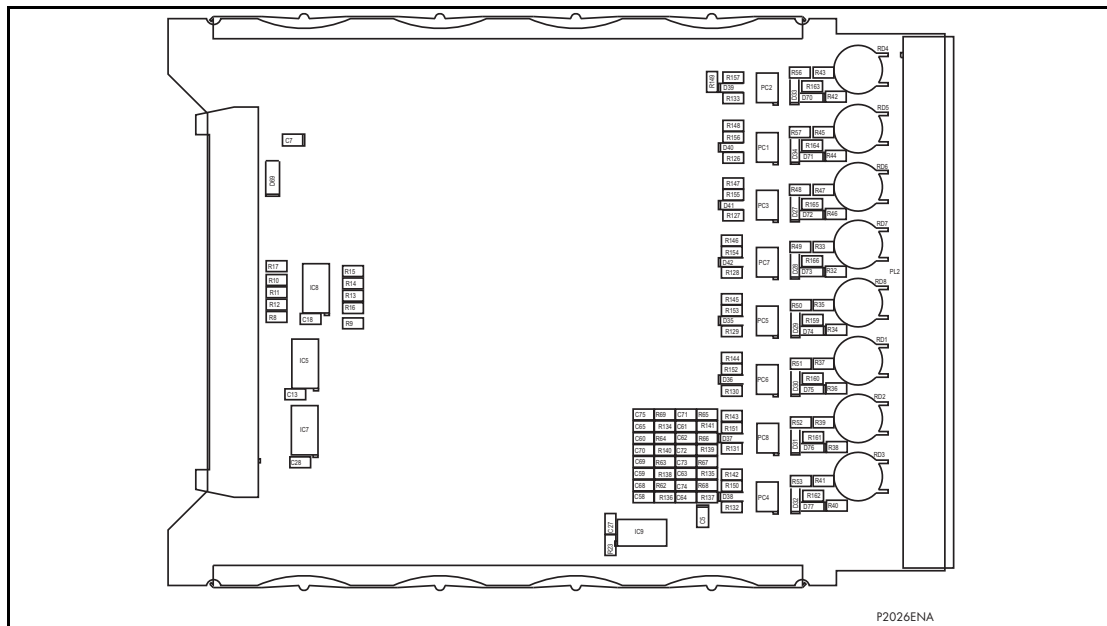
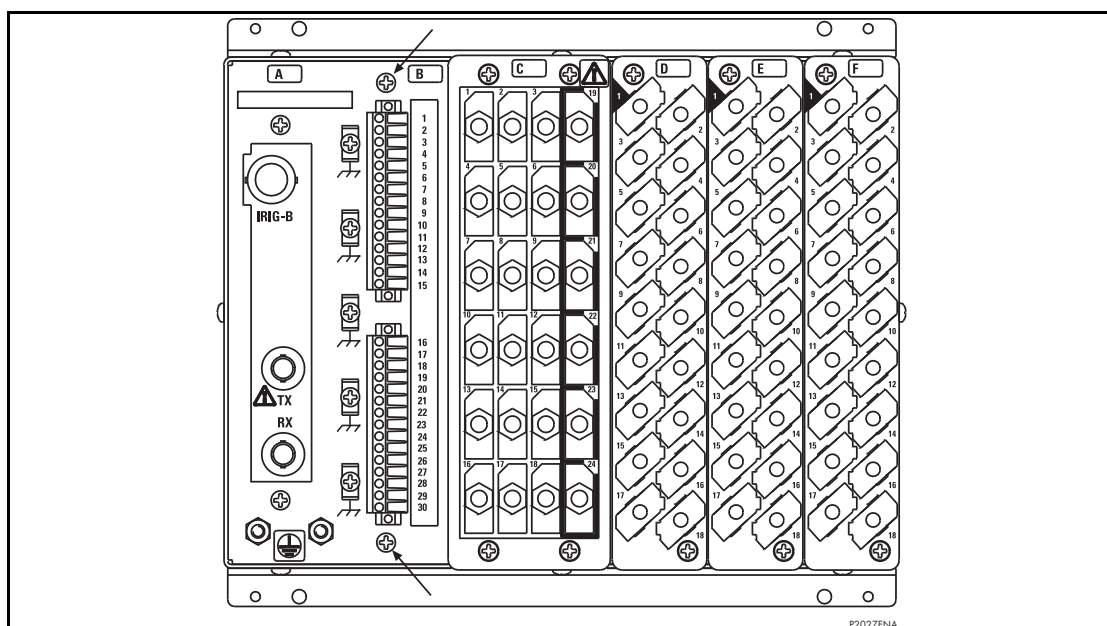

Figure 9: Typical opto board
Figure 10: Location of securing screws for RTD/CLIO input board
2. If replacing the relay board, make sure the setting of the link above IDC connector on the replacement relay board is the same as the one being replaced. To help identify that the correct board has been removed, Figure 9 and Figure 10 show the layout of the relay and opto boards respectively.
1. To replace a faulty RTD input board, first remove the two 15-way terminal blocks. Each block is fastened to its other half by slotted screws above and below the row of terminals, as shown in Figure 10. Remove these screws carefully as they are not captive in the terminal blocks.
3. The RTD input board is secured in the relay case by two screws accessible from the rear of the relay, one at the top and another at the bottom, as shown in Figure 10. Remove these screws carefully as they are not captive in the rear panel of the relay.
4. Gently pull the faulty RTD input PCB forward and out of the case. To help identify that the correct board has been removed, Figure 10 shows the PCB layout.